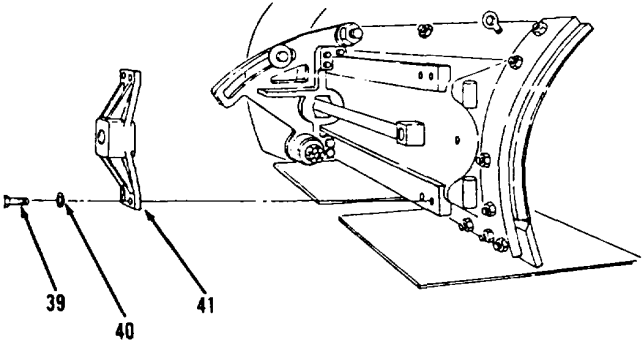

Figure 10-145.
- 23. Remove four bolts (39), washers (40) and bracket (41, Figure 10-145).
1. Install bracket (41), four washers (40) and bolts (39, Figure 10-145).